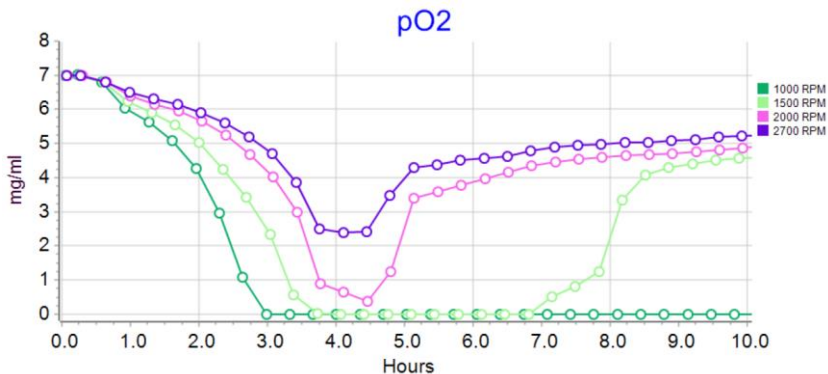

Figure 9. Influence of the speed of rotation of the tube on the dynamics of the change in the concentration of oxygen in the cell suspension.
Working volume was 10 ml, the cultivation temperature was 37 ° C, the measurement interval (MI) of the sensors were every 20 minutes, the reverse spin interval (RSI) of the tube 1 time per second, the intensity of rotation of the tubes - according to the signatures to the legends (fig. 9). The aeration intensity was changed by changing the rotation speed or angular velocity (ω) of the bioreactor tube in discrete ranges of $\omega = 1000$ rpm (green curve), $\omega = 1500$ rpm (light green), $\omega = 2000$ rpm (pink curve) and $\omega = 2700$ rpm (purple curve).
Let us consider the obtained data of the dependence of the change in the rate of growth of oxygen consumption and of pH of the nutrient medium on the rate of rotation of the tube. From the data obtained (see fig. 9), it is clear that an increase in the rotation speed of the tube leads to an acceleration of the growth rate of the optical density of the nutrient medium (OD600) and therefore of cells whose concentration (in mg/ml) corresponds to the values of OD600. The greatest difference in cell concentration is for 4-5 hours of cultivation and then after 10 hours the OD of all variants is compared in the region of 6.0-6.5 OD600, which is the maximum possible yield of biomass of *E. coli* BL21 cells on the LB medium.
From the data presented in fig. 9, it is seen that during the transition of the culture to the logarithmic growth phase, an increase in the intensity of oxygen consumption from the medium consumed for aerobic generation of ATP is observed. If under intensive aeration conditions (corresponding to $\omega = 2000$ rpm and $\omega = 2700$ rpm) the cell culture does not fall into hypoxic shock, then for aeration intensity corresponding to ω from 1500 and below, hypoxia is observed - that is, a state in which the OTR is lower than the intensity of oxygen consumption by the culture. It is interesting to note that this transition is observed at cell concentrations in the medium corresponding to the values given in Table 2.